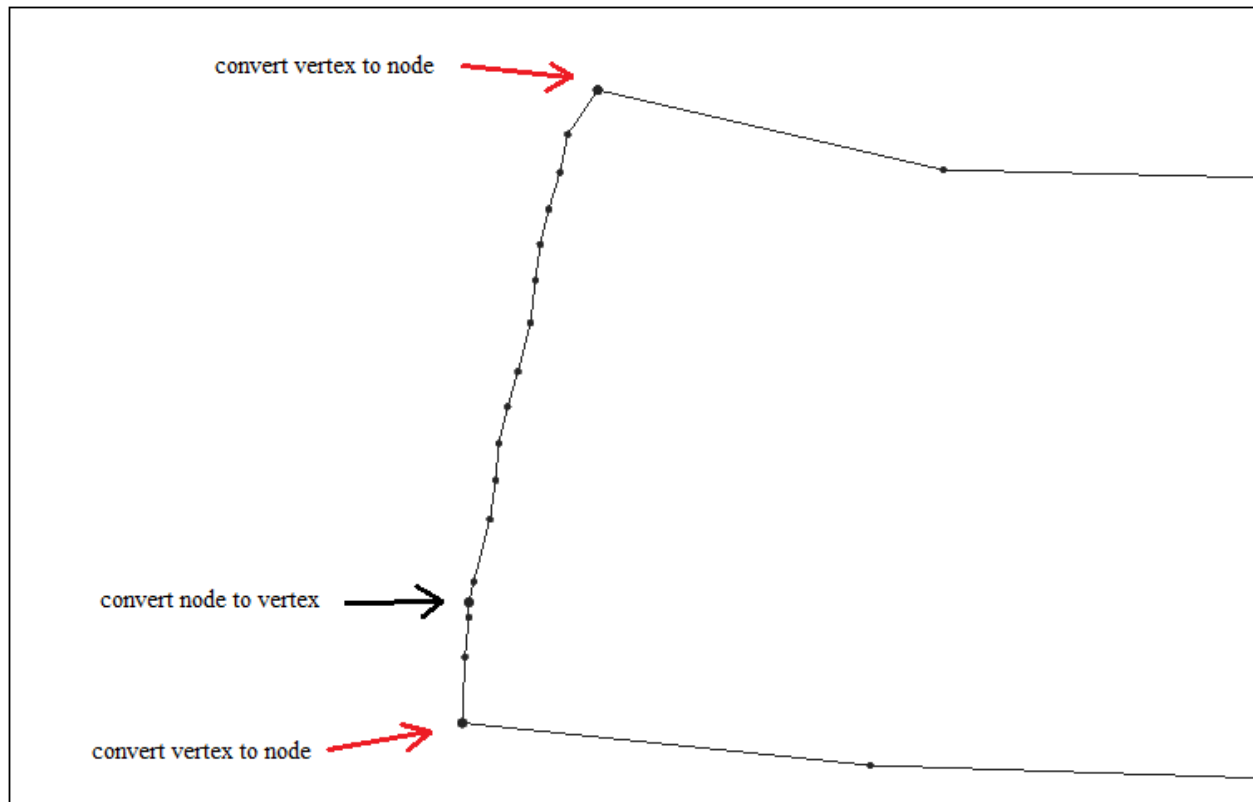

Figure 4
4. Do the same to the lower boundary of the coverage. There is also a node that needs to be converted into a vertex. This is done by using the *Select Feature Point* tool, right-clicking and choosing *Convert to Vertex*. Figure 4 indicates which vertices/nodes need to be converted.